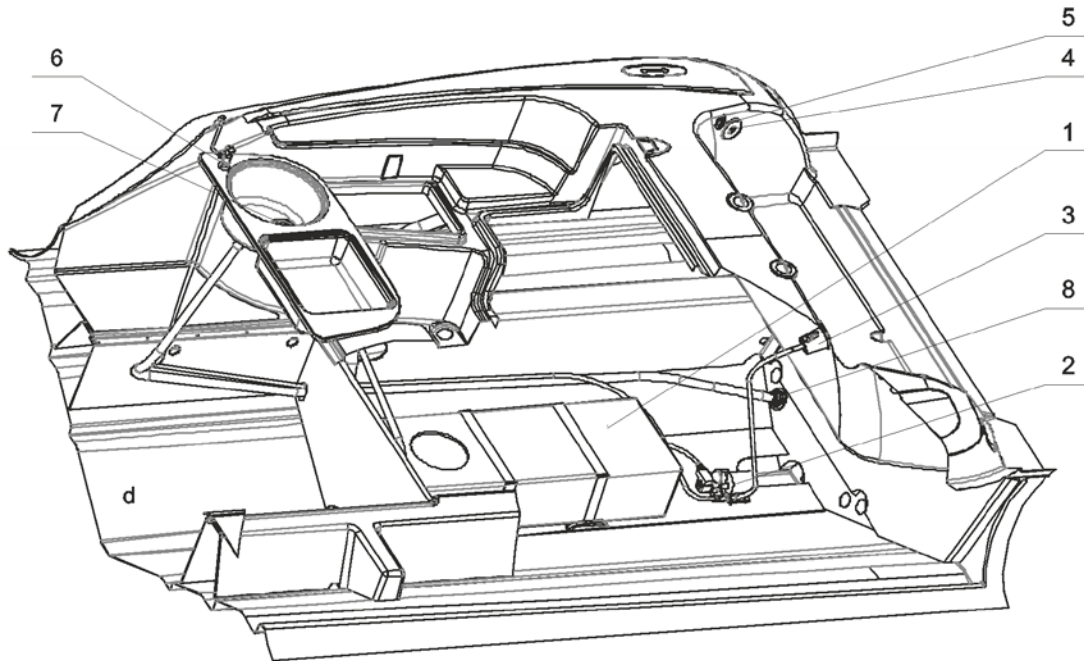

Fig. 33. Water supply system.
Water supply system (see fig. 33 on the previous page).
- To fill up wash basin with water, open a tap (fig. 33, pos. 6).